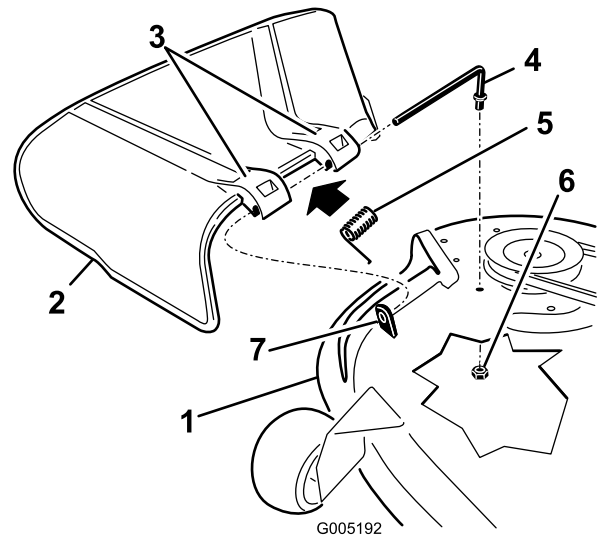

Figure 67
1. Locate items shown in Figure 67.
2. Remove the nut (3/8 inch) from the rod under the mower (Figure 67).
3. Slide the rod out of the short stand-off, spring, and grass deflector (Figure 67). Remove the damaged or worn grass deflector.
4. Replace the grass deflector (Figure 67).
6. Place the spring on the rod, with end wires down, and between the grass deflector brackets. Slide rod through second grass deflector bracket (Figure 67).
7. Insert rod at front of grass deflector into short stand-off on deck. Secure rear end of rod into the mower with a nut (3/8 inch) (Figure 67).